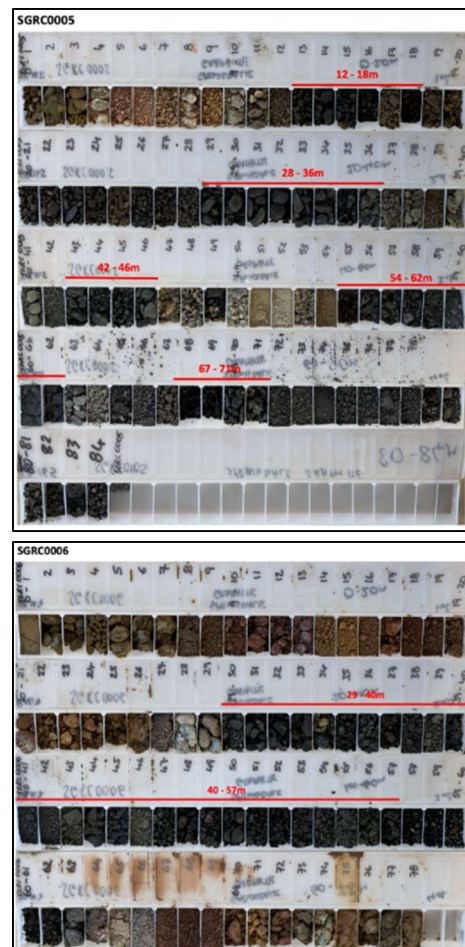

Figure 4: RC drill samples with graphite intersections highlighted
- The SDW_1 Target is located approximately 500m immediately west of the Springdale mineral resource and has been defined by a distinct conductor identified in airborne electromagnetic survey data (AEM). To date, 9 RC drill holes for 715m have been completed over a strike length of at least 700m to provide an initial test of this target (Table 1). Based on visual assessment, each hole has successfully intersected multiple zones of graphite mineralisation with widths of single zones up to 32m wide (Figure 4 and Table 2). No assay data is yet available.